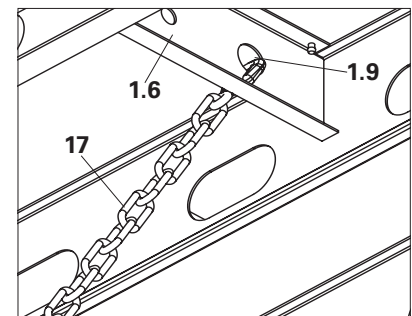

Fig. A10.02b
- Attach the anchor chain (17) to the hole (1.9) provided on stiffener (1.6) of the Panel ADP (1). (Fig. A10.02b)